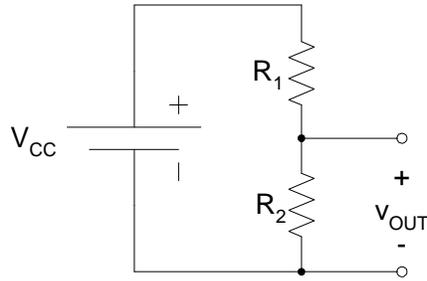

Figure 1: Voltage Divider Circuit
2. To be useful for most systems, the resistance change must be translated into a voltage signal. Two common circuits for doing this are shown in Figures 1 and 2. For each circuit, determine the equation for v_{OUT} as a function of V_{CC} , R_1 , R_2 , R_3 and R_4 .